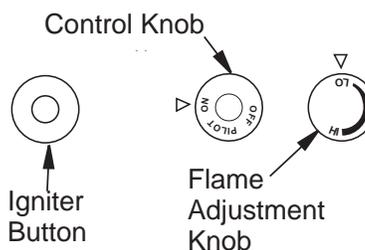

Figure 40 - Control Knob and Igniter Button Location
3. Press in and turn control knob clockwise  to the OFF position (see **Figure 40**).
5. Wait five (5) minutes to clear out any gas. Then smell for gas, including near the floor. If you smell gas, STOP! Follow B in the safety information, **Page 24**. If you don't smell gas, go to the next step.
6. Press in and turn control knob counter-clockwise ↶ to the PILOT position. Press in control knob for five (5) seconds (see **Figure 40, Page 24**).